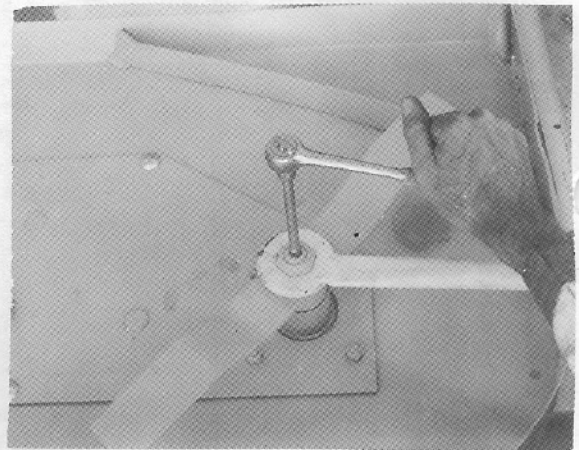
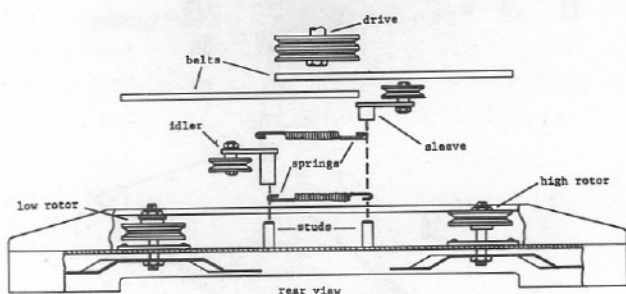

fig 9
fig 2
3. **BLADE REMOVAL:** STOP the engine, Put the PTO in the OUT position. Put the operating levers in NEUTRAL. BE SURE the blades have stopped. Remove the mower from the tractor. Turn the mower upside down. Hold the rotor shaft with a 3/8" socket drive and remove the nut with a 15367E1 Gravelly Wrench or equivalent, fig 9. Do not use the top spindle nut to hold the spindle from turning.
3. Mount the idlers on the studs as in fig 2. Note the different sleeve lengths of the idlers. The short sleeve goes next to the high rotor and the tall sleeve goes next to the low rotor. Set the idlers on the studs with the extended sleeves down. Work from the rear of the mower.
5. Hook the springs to the idler assembly from underneath as in figs 2 & 4, solid lines.
7. **BELT REMOVAL:** Remove the belt covers. Unhook one end of each spring; use a spring puller or clamp-lock pliers. Remove the drive. Remove the belts. See figs 2, 3, & 4. fig 1, Item 14 and 15. Hold the rotor shaft with a 3/8" socket drive and torque the nut to 100 ft. lbs. Similar tightness can be reached with a Gravely 11367E1 Wrench or any 16" length handle wrench when used by an average man, fig 9.